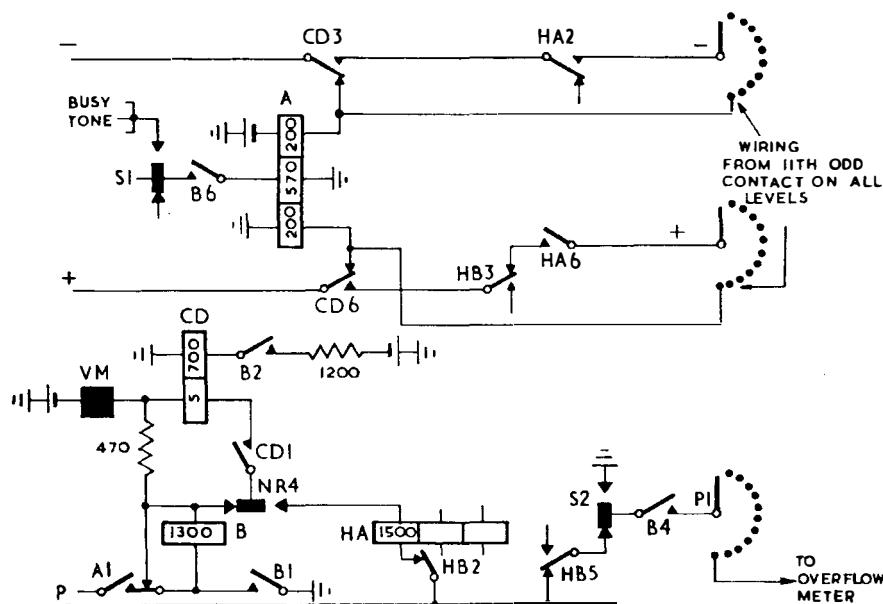

FIG. 11. ALL OUTLETS BUSY CONDITION.
**3.14 ALL OUTLETS BUSY.** When all outlets on a dialled level are busy, relays HA and HB remain operated and the rotary drive is maintained until eleven rotary steps are taken, when the 11th step or S springs operate. As the eleventh contacts are not connected to working trunks, there is normally no earth on the P contacts and relays HA and HB both release, cutting the rotary drive circuit. Relays CD and HA re-operate as described in para. 3.11 and the caller is switched to the odd bank. At each switch, the 11th positive and negative contacts on all levels of the odd bank are commoned and wired back via U jacks 4 and 7 to the A relay. Because of this wiring, the calling loop is still connected to the A relay and earth from B3 holds relay HA operated. Fig. 11 shows the conditions while the caller is receiving busy tone.